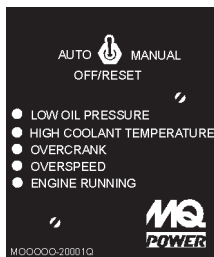

Figure 43. Engine Running (LED ON)
5. Verify that the **engine running** status LED on the MPEC module (Figure 43) is lit (ON) after the engine has started.